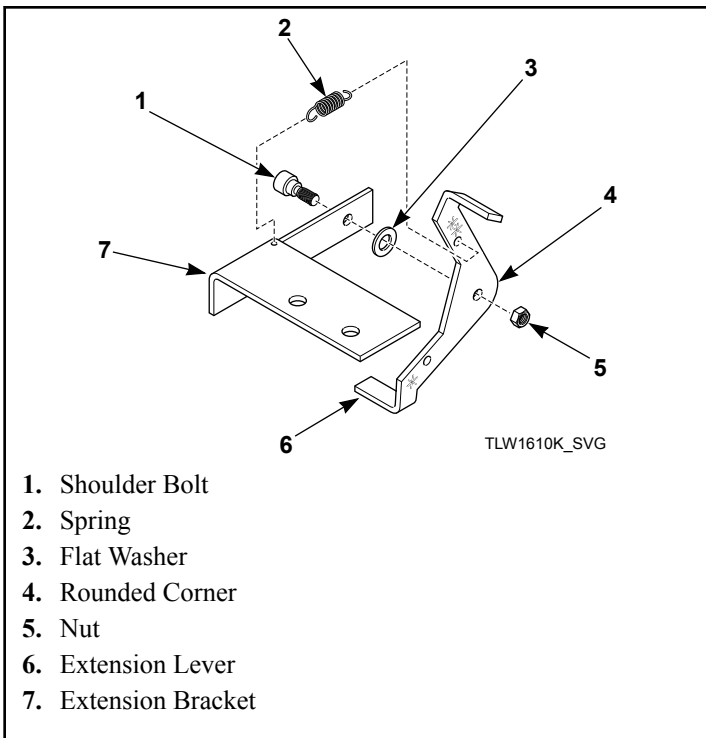

Figure 37
3. Install extension lever with rounded corner facing away from extension bracket using shoulder bolt, flat washer and nut. Refer to *Figure 37*.
4. Install spring to extension bracket with hook facing down. Install other end of spring to extension lever with hook facing left while standing in front of unit. Refer to *Figure 37*.